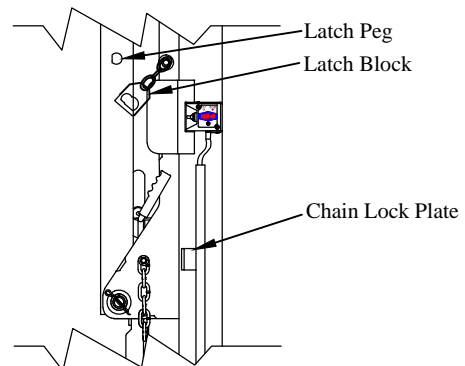

Figure 4: Step 6.
- Step 6. Move the Latch Block off of the Latch Peg on the platform. (Figure 4).